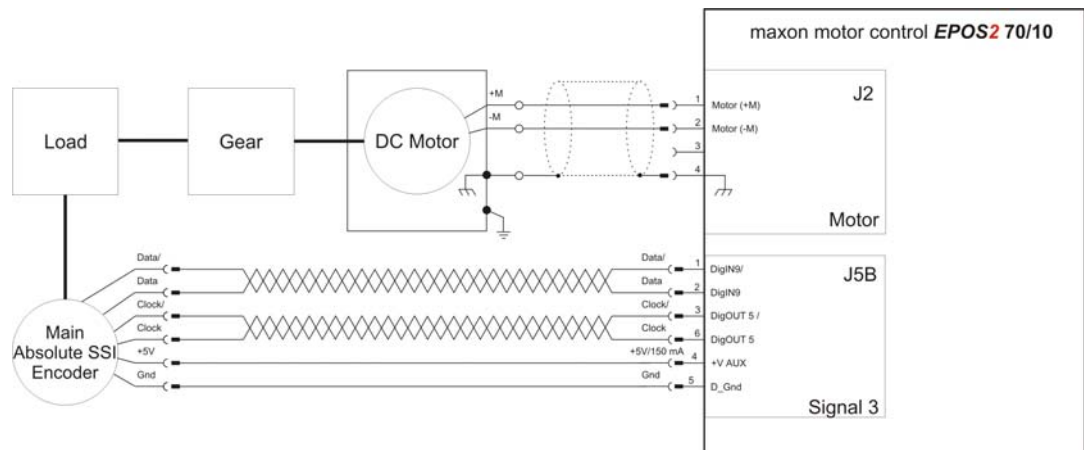

Figure 13-161 Example 1 – Wiring Diagram
- 1) Wire the system according to the wiring diagram (→Figure 13-161).